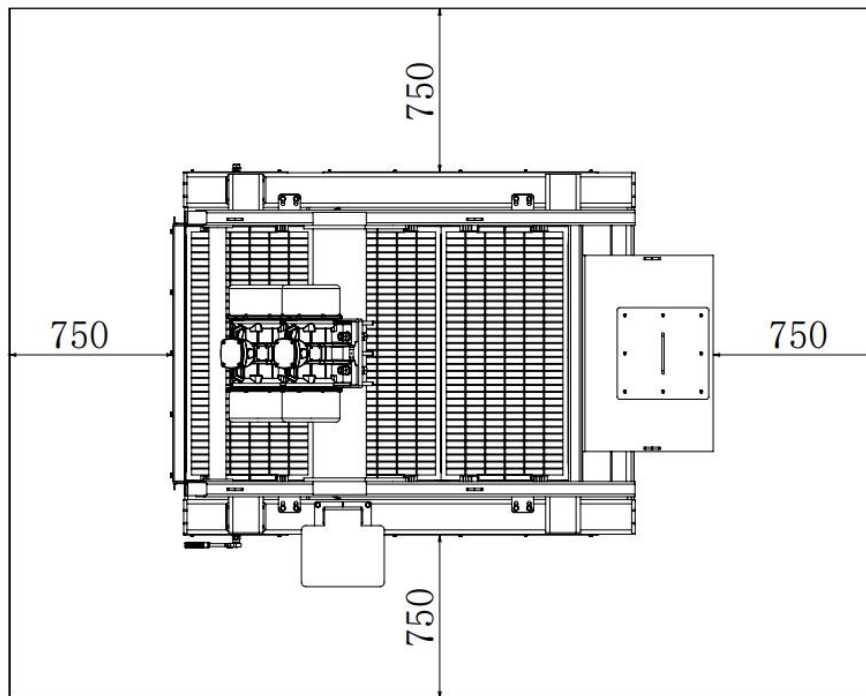

Figure 3-4. Reserved space around equipment
3.3.3.1. When shale shaker arrives at job site, put it at proper position. Make mounting hole according to 4-Φ24 installation hole on the shaker (Refer to Fig 3-4), and fixed it. Make fixture, do related position fixing on all aspects to make installation, uninstall. If along with system, we'll provide installation and fixture, user only needs to connect and fix it